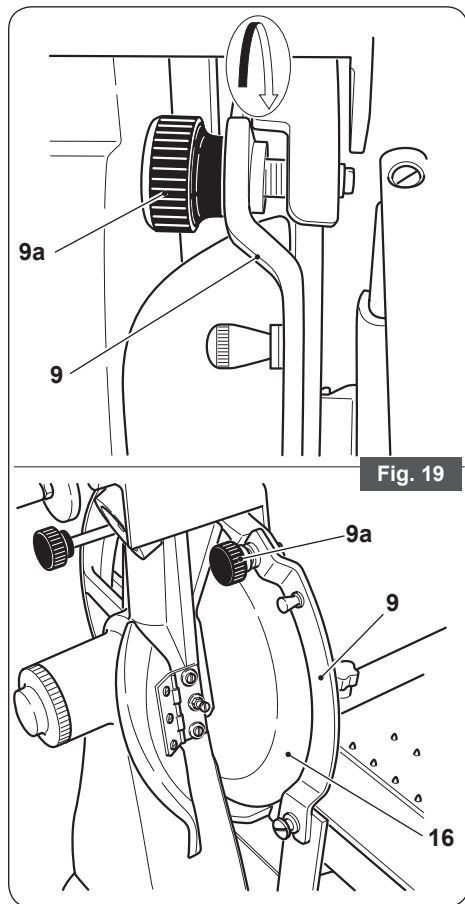

Fig. 19
- Reposition the blade guard (9) by tightening the knob (9a) (fig. 19).